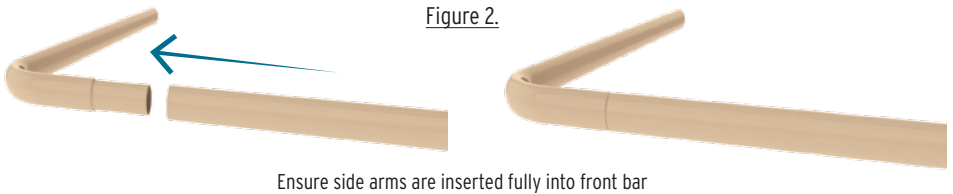

Figure 3.
5. Start threading line from inner most hole (**see figure 3**) and continue up to last hole position. Ensure line tensioner is aligned with last hole in side arm. Thread line through line tensioner, pull tight and secure (**see figure 4**). Trim line leaving approximately 60mm excess.